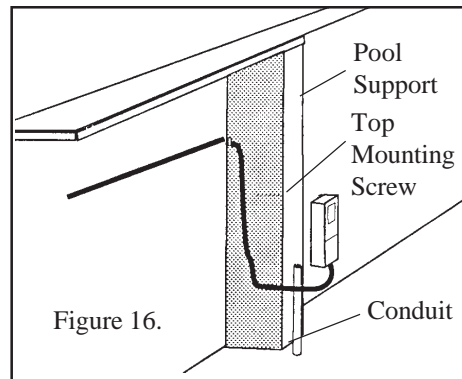

Figure 16.
12. Mount the transformer box on a pool support approximately 18 inches above the ground, in a position accessible to electrical connection; see Figure 16. To mount the transformer junction box, insert one of the screws provided, to a pool support.